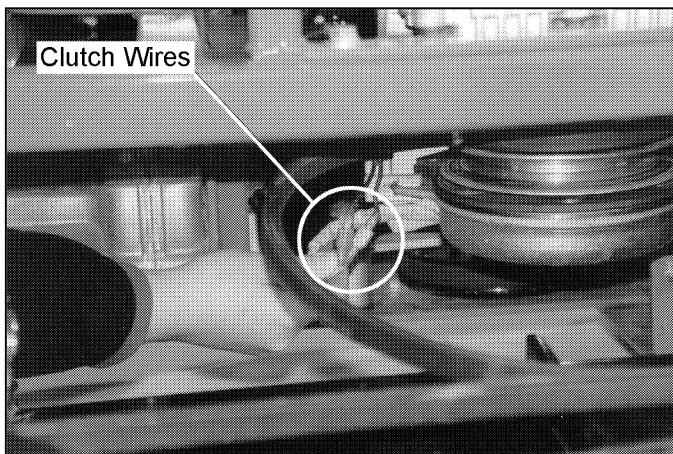

Figure 19
3. Unplug the clutch wires (*Figure 19*).